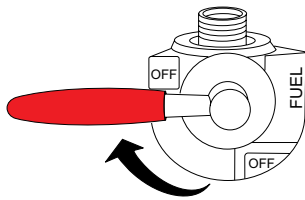

Figure 30. Fuel Tank Valve Lever (OFF)
1. Place the fuel tank ON/OFF valve lever (Figure 30) in the **OFF** position.